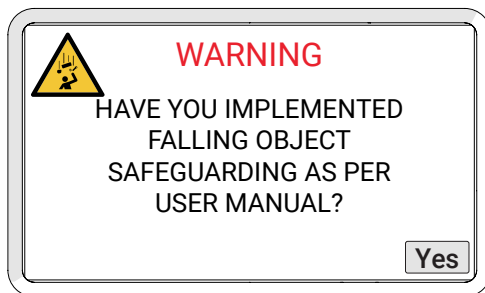

Fig. 155 - Falling object warning
6. A second warning message (Fig. 155) will display requesting assurance that a no-entry fall zone has been established (see “Preparation for Safe Use” on page 29) and tether requirements are met (see “Tether Requirements and Attachment” on page 30). Acknowledge this warning by touching **Yes**.